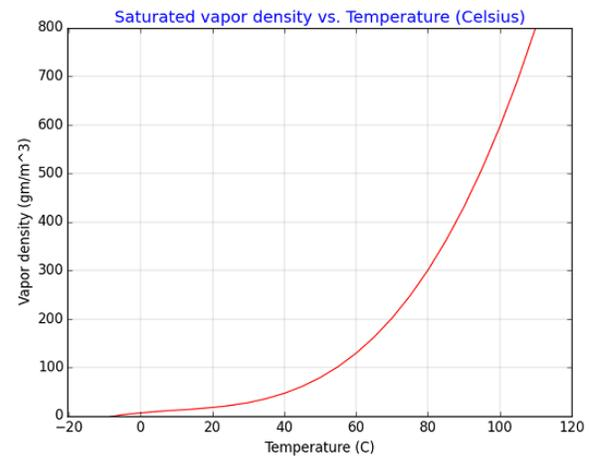

Figure 1. Saturated Vapor Density vs Temperature Graph ⁽¹⁾
The primary type of humidity information reported by these sensing ICs is Relative Humidity (RH). Relative Humidity can be described as the ratio of the amount of water vapor present in the air versus the amount of vapor the atmosphere can hold at a given temperature. The equation for relative humidity is shown in Equation 1. The different Saturated Vapor densities (SVD) of water for a given temperature is shown in Figure 1.
⁽¹⁾ The empirical fit equation of saturated vapor density vs temperature used to graph Figure 1 was obtained from <http://hyperphysics.phy-astr.gsu.edu>